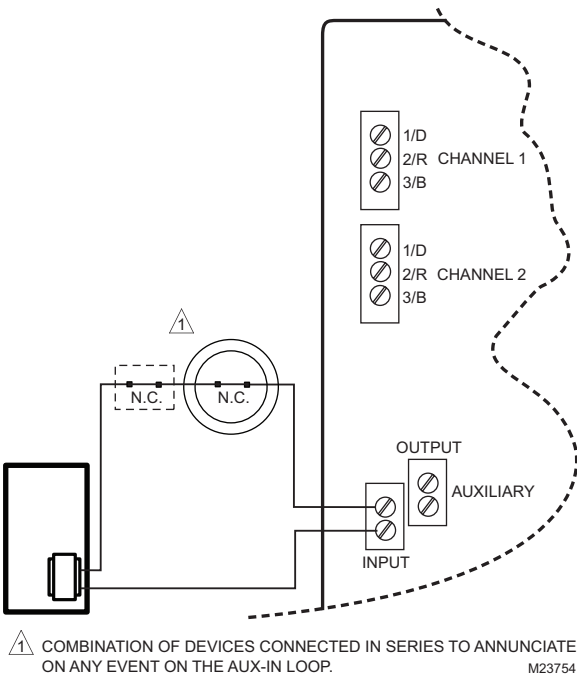

Fig. 13. Wiring the AUX-IN Terminal Block with Devices in Series (External Power Supply).
- For multiple sensors, connect in series to annunciate any condition on the AUX-IN loop. See Fig. 13 on page 10.